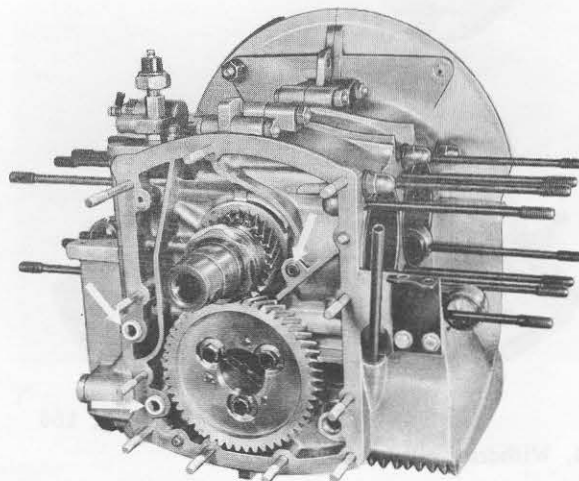

Fig. 153
1. Use new gaskets. It should be noted that the three O-rings provided for sealing the oil galleries between the timing gear cover and crankcase (see Fig. 153 - - two O-rings to the left of the timing gear) are not omitted nor that they fall out when the timing gear cover is positioned on the crankcase.